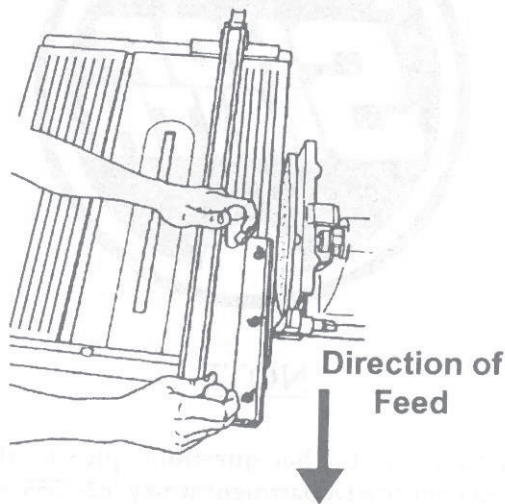

Figure 11
17. When the pass is completed, remove the Knife Sharpener from the worktable, as shown in Figure 11.